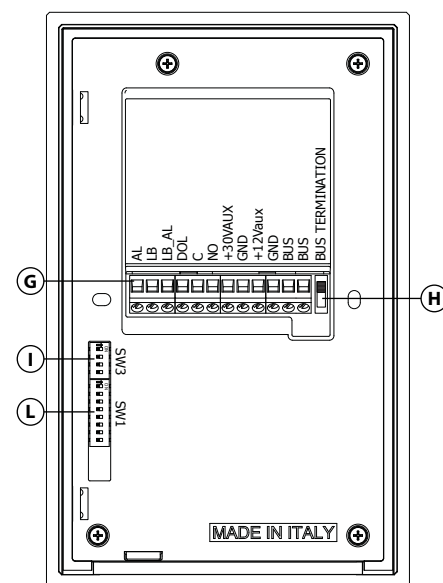

Fig. 3 Art. KRV88 back
⚠ In order to prevent water ingress we highly recommend using a silicon sealant between the wall and the back box **(C) ON THE LEFT, TOP AND RIGHT SIDES ONLY AND AROUND ALL HOLES **(D)**. DON'T USE SILICON SEALANT ON THE BOTTOM SIDE OF THE BACK BOX (Fig.3);**